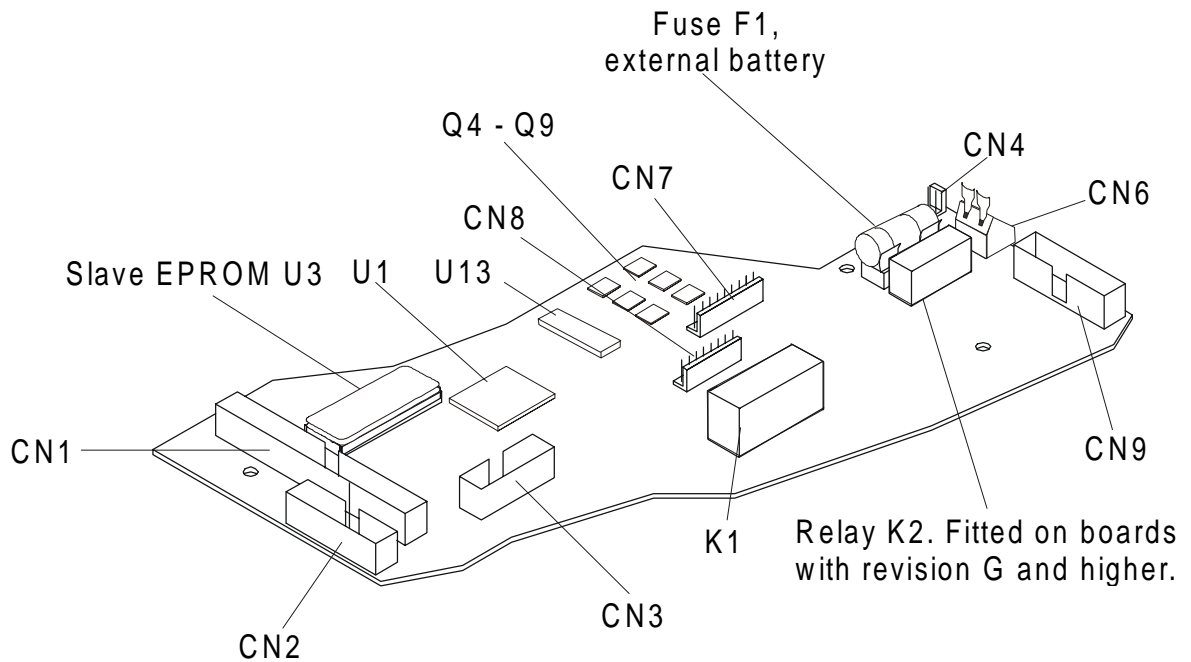

Fig. 6-5 MDA board, Rev. G
- While the PV 401-2 is open, check if the MDA board has relay K2 installed (see figure 6-5 *MDA board, Rev. G*) as the software must be programmed if the relay is installed or not.